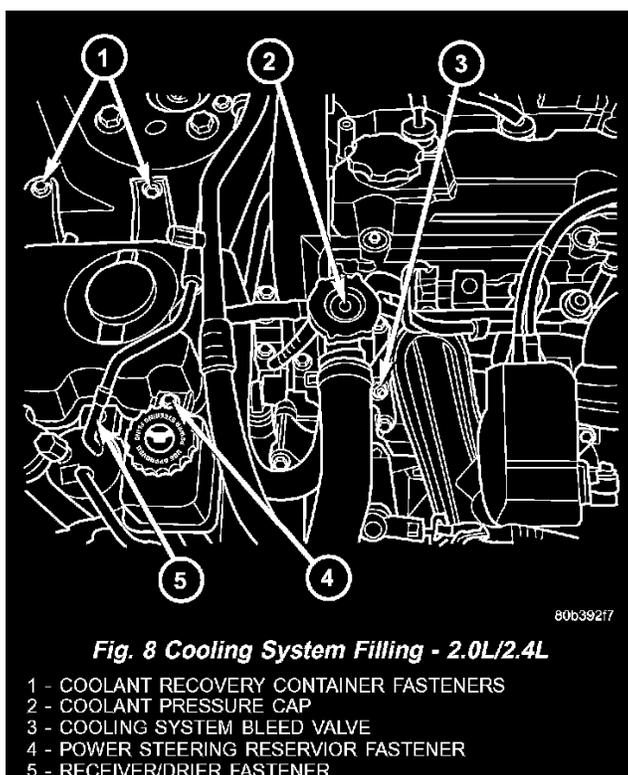

Fig. 8
2. Open cooling system bleed valve (Fig. 8).